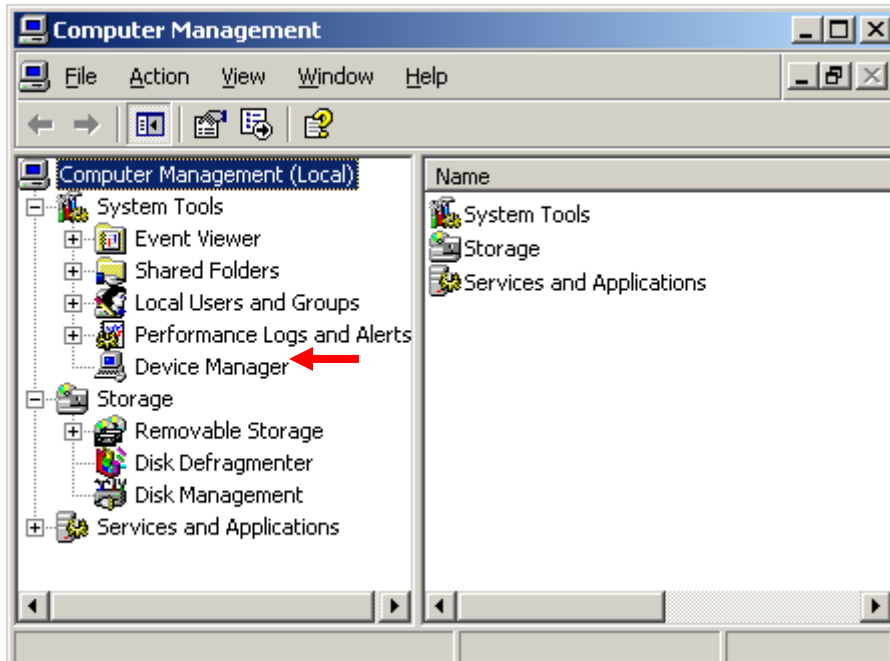

Figure 5
2. Click **Manage**. The **Computer Management** screen shown in Figure 5 displays.